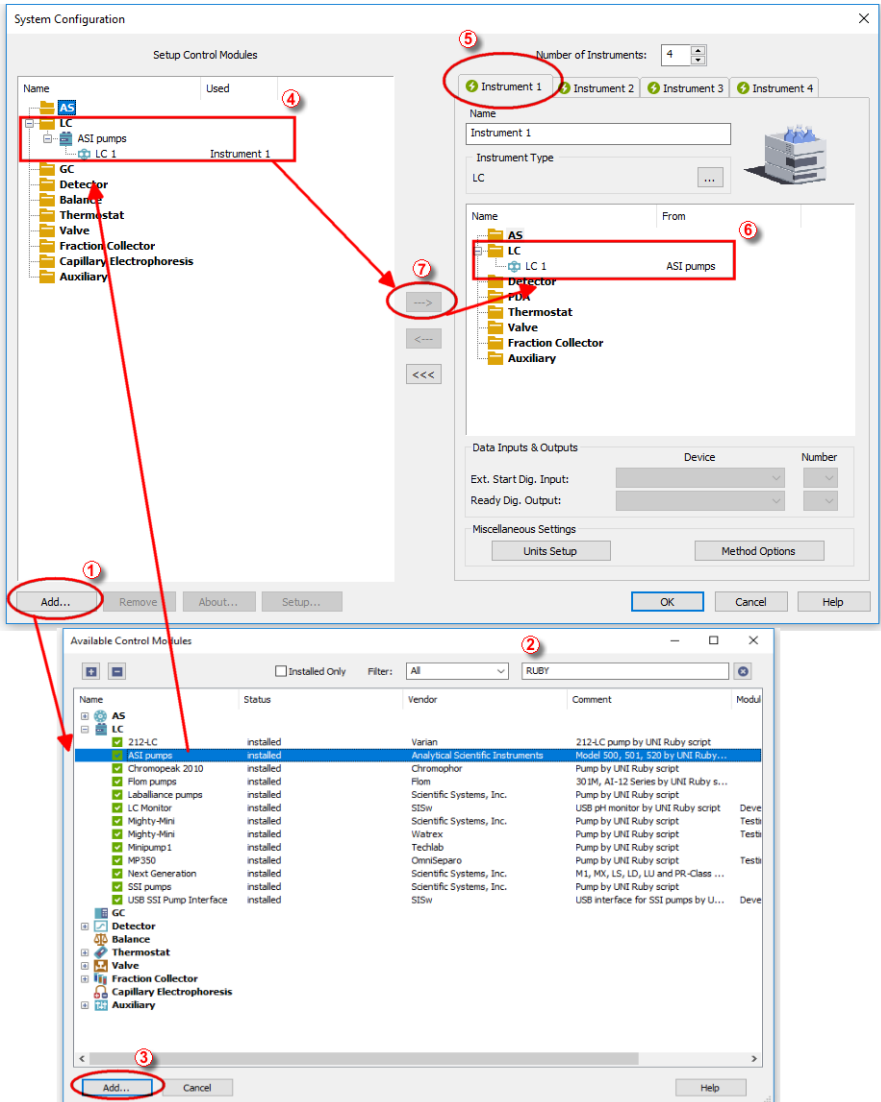

Fig. 4: How to Add ASI Series 500 pumps module
- Press the *Add* button (① on 3.2 on pg. 4.) to invoke the *Available Control Modules* dialog.
- You can specify the search filter (②) to simplify the finding of the driver.
- Select the correct item and press the *Add* (③ on Fig. 4 on pg. 4.) button. Each device with already created UNI profile should have its own item named accordingly in the *Available Control Modules* dialog.